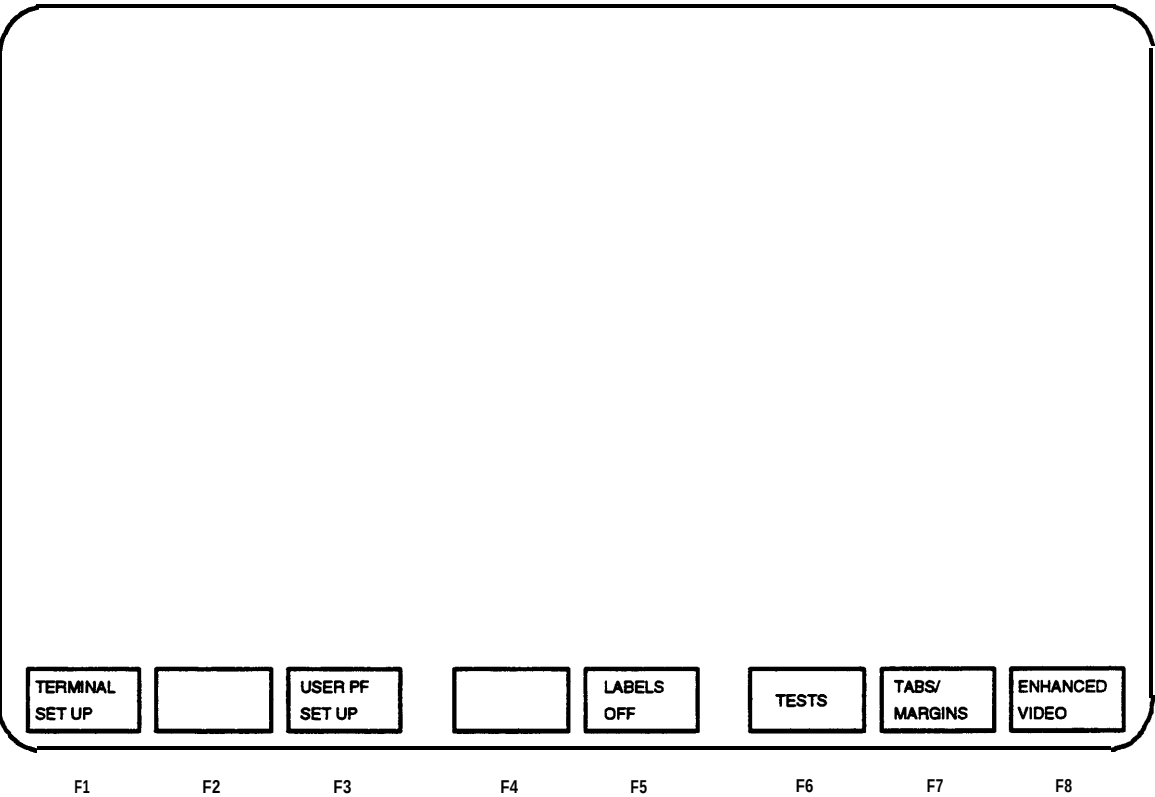

Figure D-3. Screen Labels for LCL MENU Key (513 BCT)
3. Press **[SHIFT]** and **[F5]** (LCL MENU). See Figure D-3.
4. The function for each programmable key is displayed at the bottom of the screen. See Figure D-3.
16. The screen is blank except for the labels displayed at the bottom of the screen. See Figure D-3.